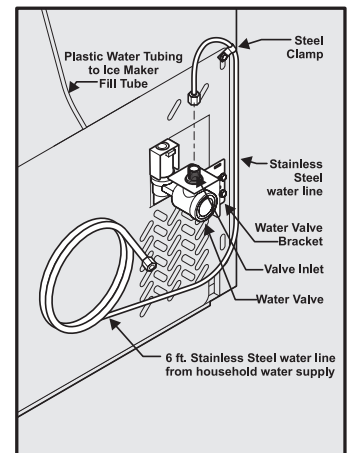

Figure 2
5. If you use stainless steel tubing - The nut and ferrule are already assembled on the tubing. Slide compression nut onto valve inlet and finger tighten compression nut onto valve. Tighten another half turn with a wrench; DO NOT over tighten. See Figure 2.